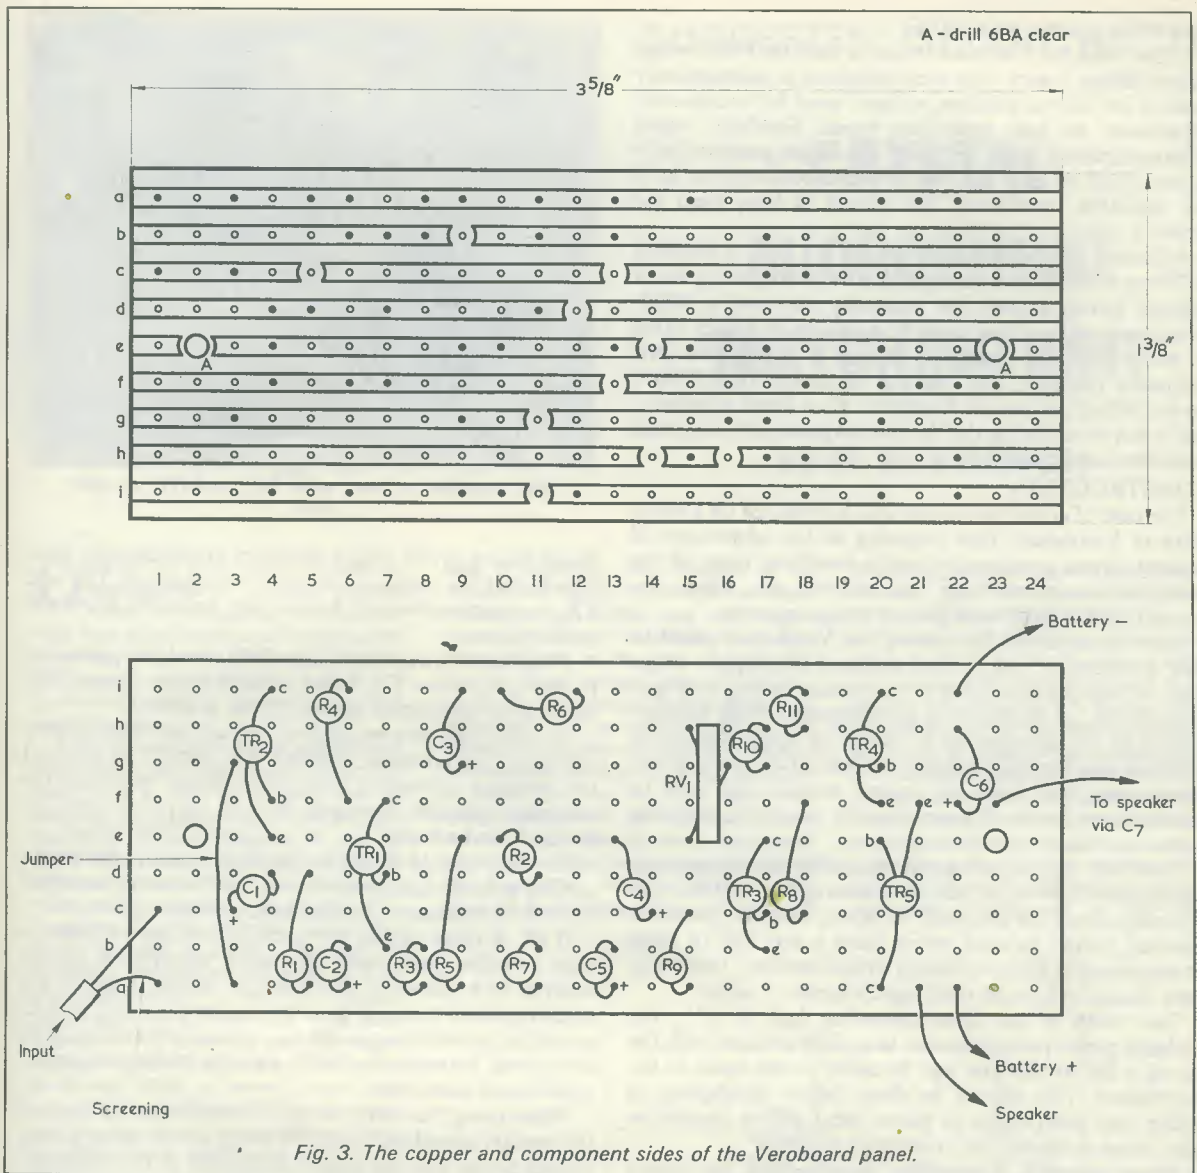

Fig. 3. The copper and component sides of the Veroboard panel.
- Veroboard panel, 0.15 in matrix, $1\frac{3}{8}$ x $3\frac{5}{8}$ in (see Fig. 3)
Start construction by cutting the Veroboard panel to size, as shown in Fig. 3, and then cut the copper strips, with the aid of a small drill or the special cutting tool that is available, as indicated in the diagram. If the finished unit is to be mounted to a chassis or small sub-panel, drill two small mounting holes to clear 6 BA screws where shown, and trim back the copper around the holes to eliminate any risk of short circuits when the securing screws are fitted in place.
Next turn the panel over and assemble the components and leads on the blank side, as shown in Fig. 3. Note that all components are mounted vertically, and that insulated sleeving should be used where there is any risk of wires or components short-circuiting to one another. Transistor cans should not touch other components or wires.